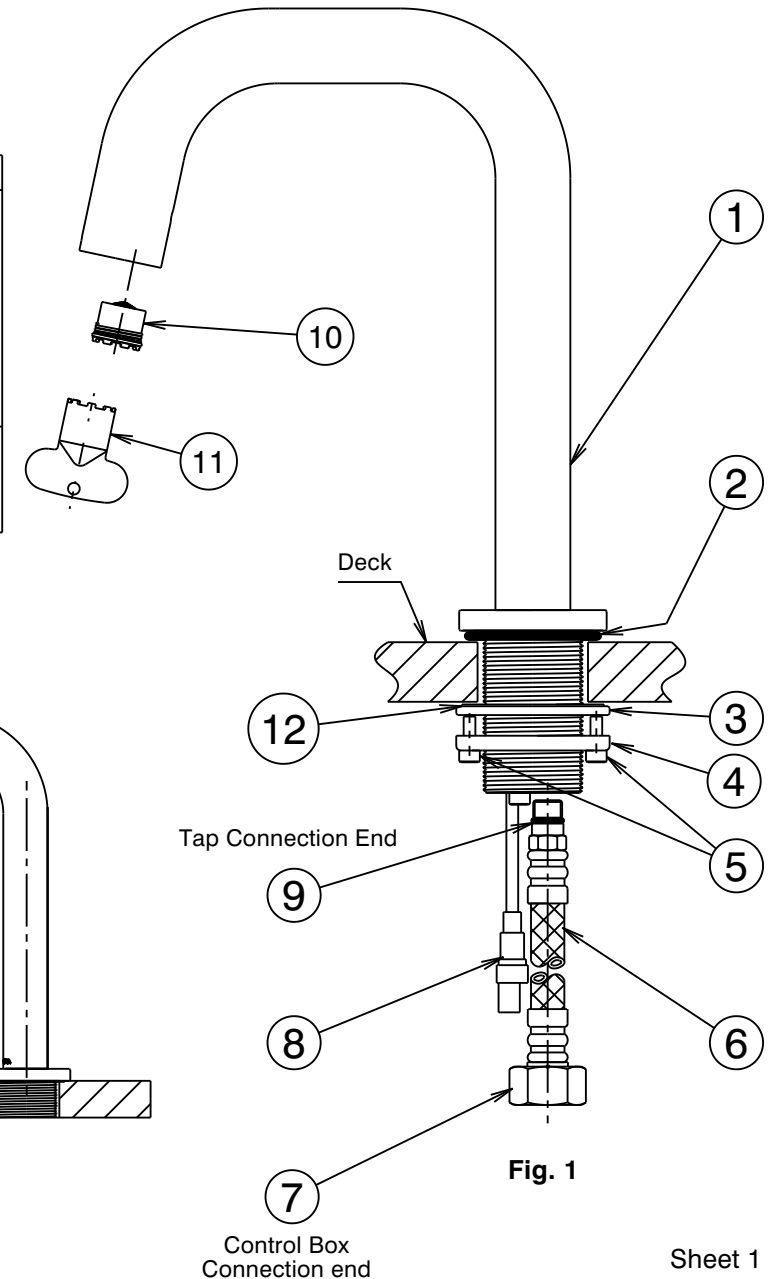

Fig. 1
- 1) From fixing pack fit 'O'ring (2) into groove of outlet base (1).
- 2) *Flexible Tail Connection:* Apply suitable lubricant to 'O'ring (9). Fit flexible tail (6) into threaded hole in base of outlet (1). Hand tighten the flexible tail, ensuring the 'O'ring (9) has fully entered the sealing bore to provide a watertight joint.
- 3) Insert the control box connection end (7) of the flexible tail (6) and the sensor cable (8) through the hole in the deck. Place outlet into deck hole, slide rubber washer (12) and metal washer (3) over threaded tail of outlet as shown in Fig. 1. Screw clamp ring (4) onto threaded tail until it contacts washer (3) then tighten screws (5) equally until outlet is clamped firmly to the deck. DO NOT OVERTIGHTEN.